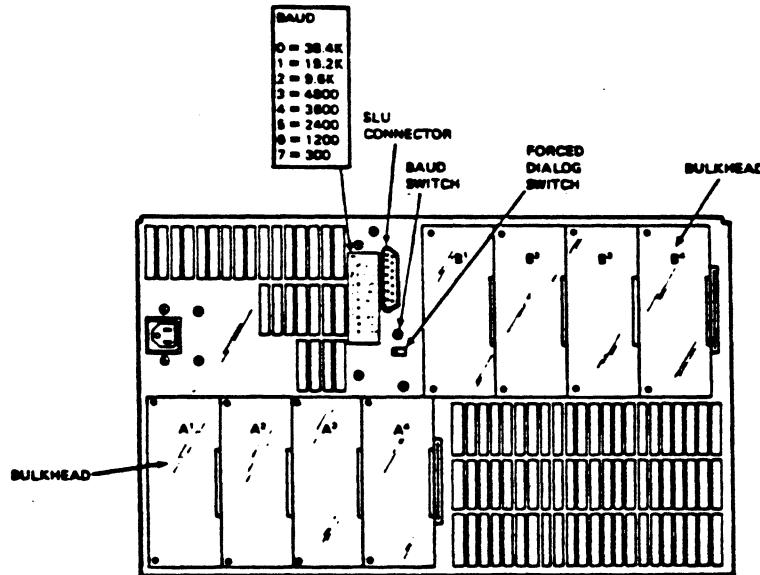

FIGURE 2-9 BOX REARVIEW
5. Set the Forced Dialogue switch to OFF (0).
7. Set the Baud Rate switch to match the baud rate for the console terminal. See Figure 2-9.
1. Plug the female end of the AC power cord into the receptacle mounted on the rear of the box. See Figure 2-9.